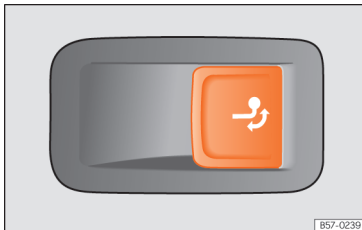

Fig. 182 Right side of the luggage compartment: button to unlock the tow hitch.
- Pull the >>> Fig. 182 button briefly. The tow hook unlocks electrically and automatically turns outwards. The button's control lamp flashes.
- Pull the >>> Fig. 182 button briefly. The tow hook unlocks electrically.
- Never press the button >>> Fig. 182 when there is a trailer hooked to the vehicle or when a carrier system or other accessories are mounted on the tow hook.